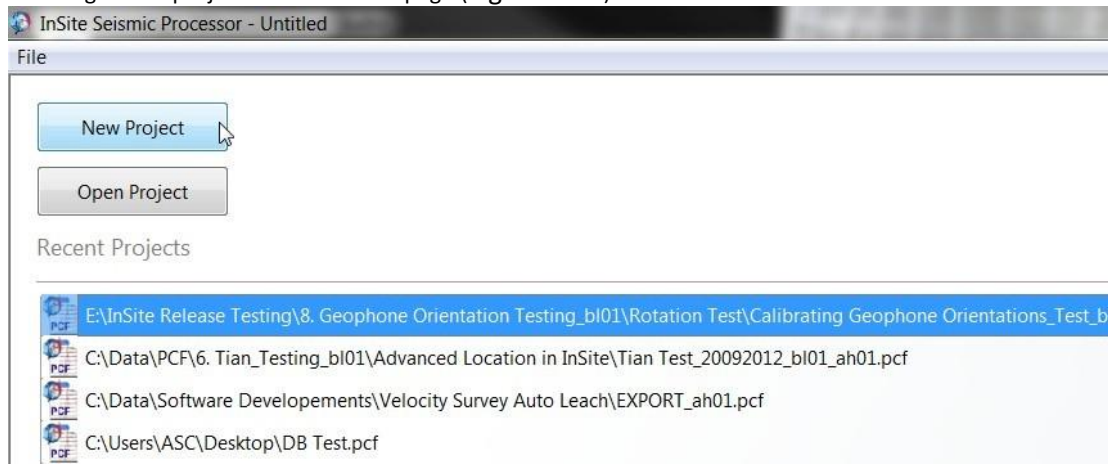

Figure 17-3: Starting new project from start page
4. Selecting a new project from the start page (Figure 17-3).